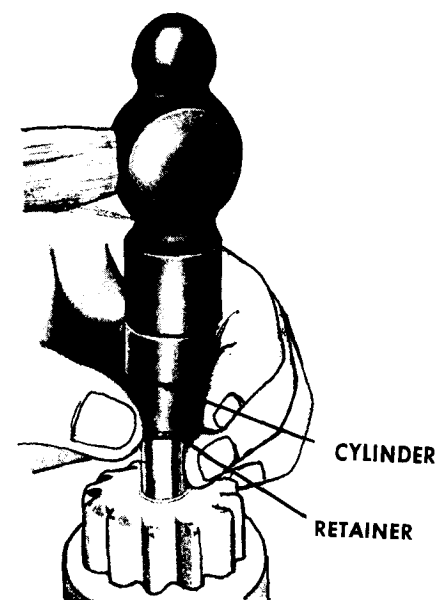

Figure 10—Removing retainer from snap ring.
6. Slide a standard half-inch pipe coupling or other metal cylinder of suitable size (an old pinion of suitable size can be used if available) onto shaft so end of coupling or cylinder butts against edge of retainer. Tap end of coupling with hammer, driving retainer towards armature and off snap ring (Fig. 10).